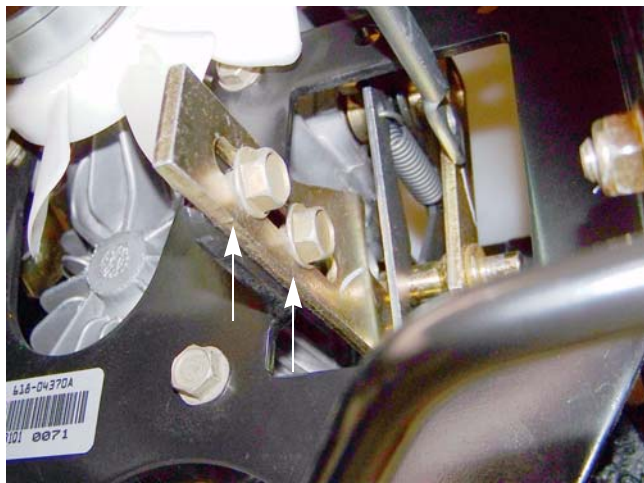

Figure 5.9
8. Loosen the two screws, indicated by the arrows in Figure 5.9, that hold the return to neutral bracket to the transmission torque bracket using a 1/2" wrench.